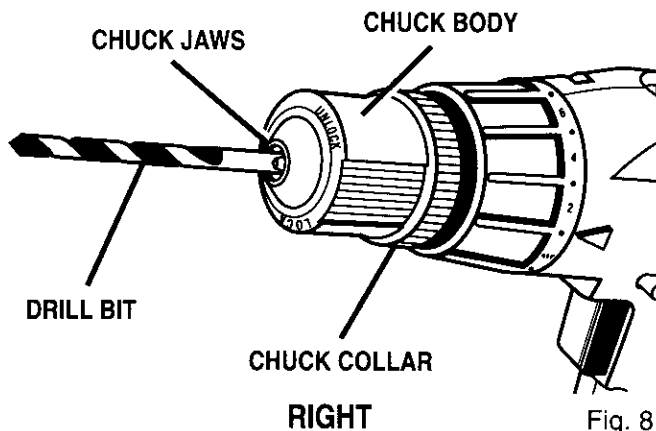

Fig. 8
See Figure 8.
- Insert drill bit into chuck the full length of the jaws as shown in figure 8.